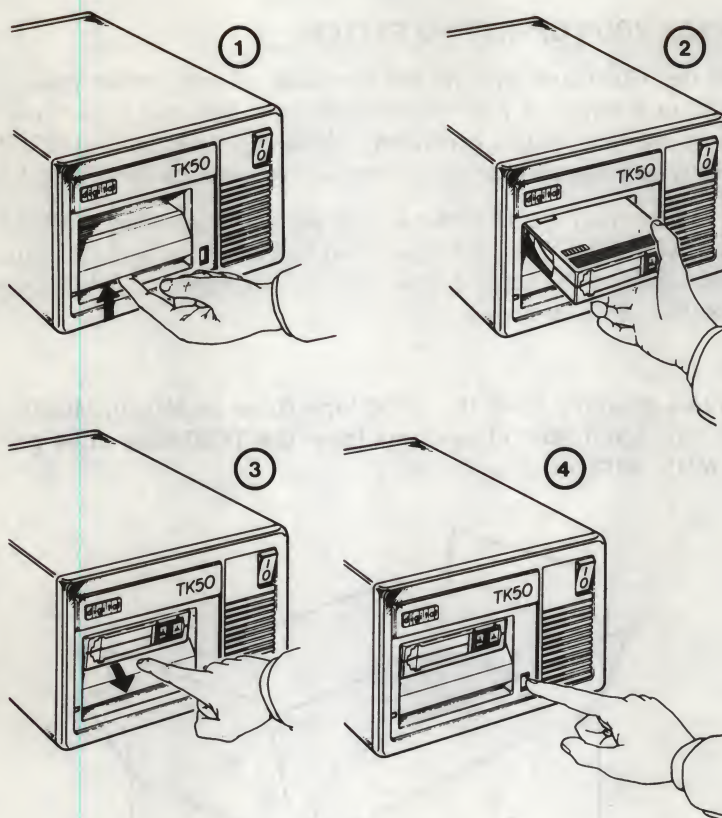

Figure 1-19 Loading a TK50 Tape Drive
- Unlock the tape drive by pushing the cartridge release handle up (Figure 1-19).